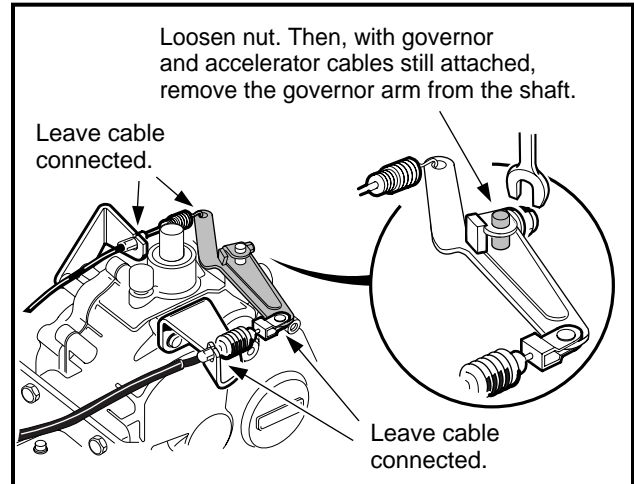

Figure 16-31 Governor Arm
17. Loosen, but do not remove, the governor arm retaining bolt. Remove the governor arm from the shaft (**Figure 16-31, Page 16-13**).